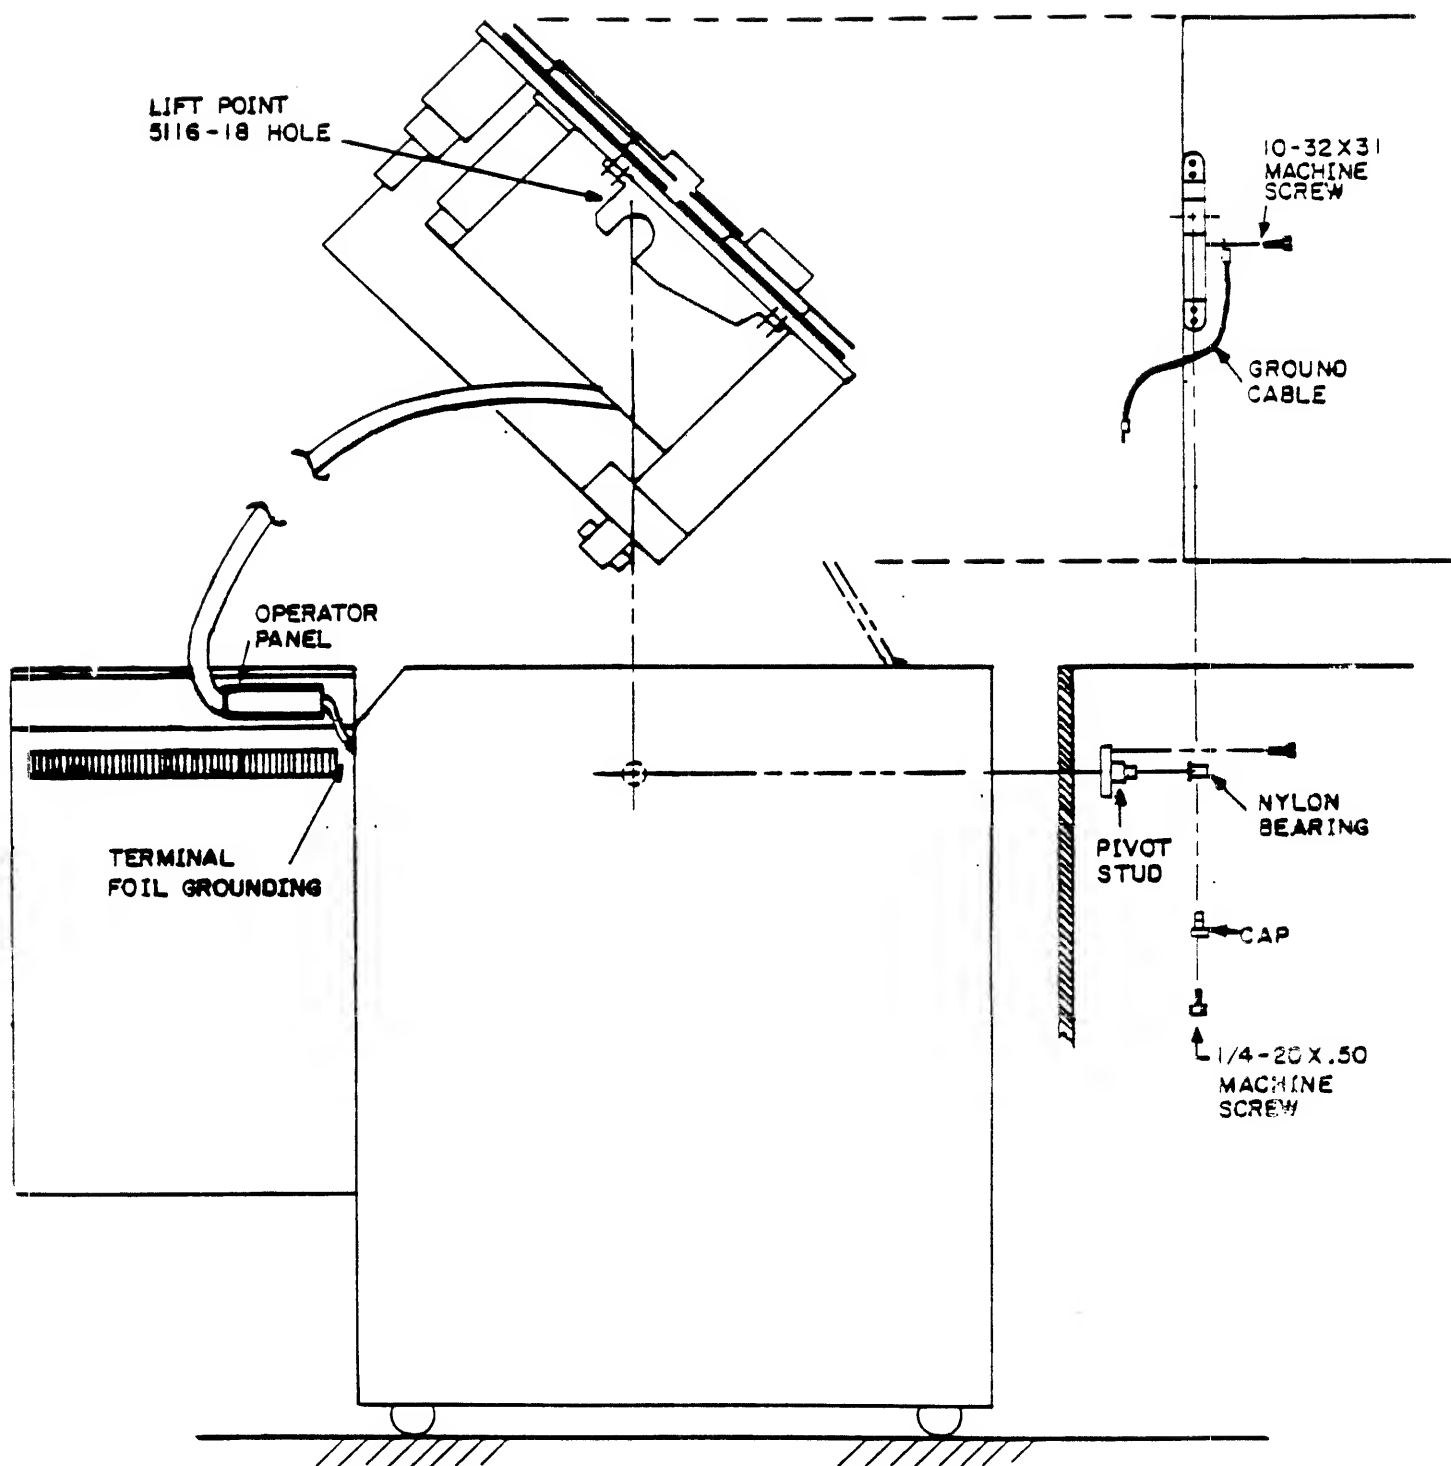
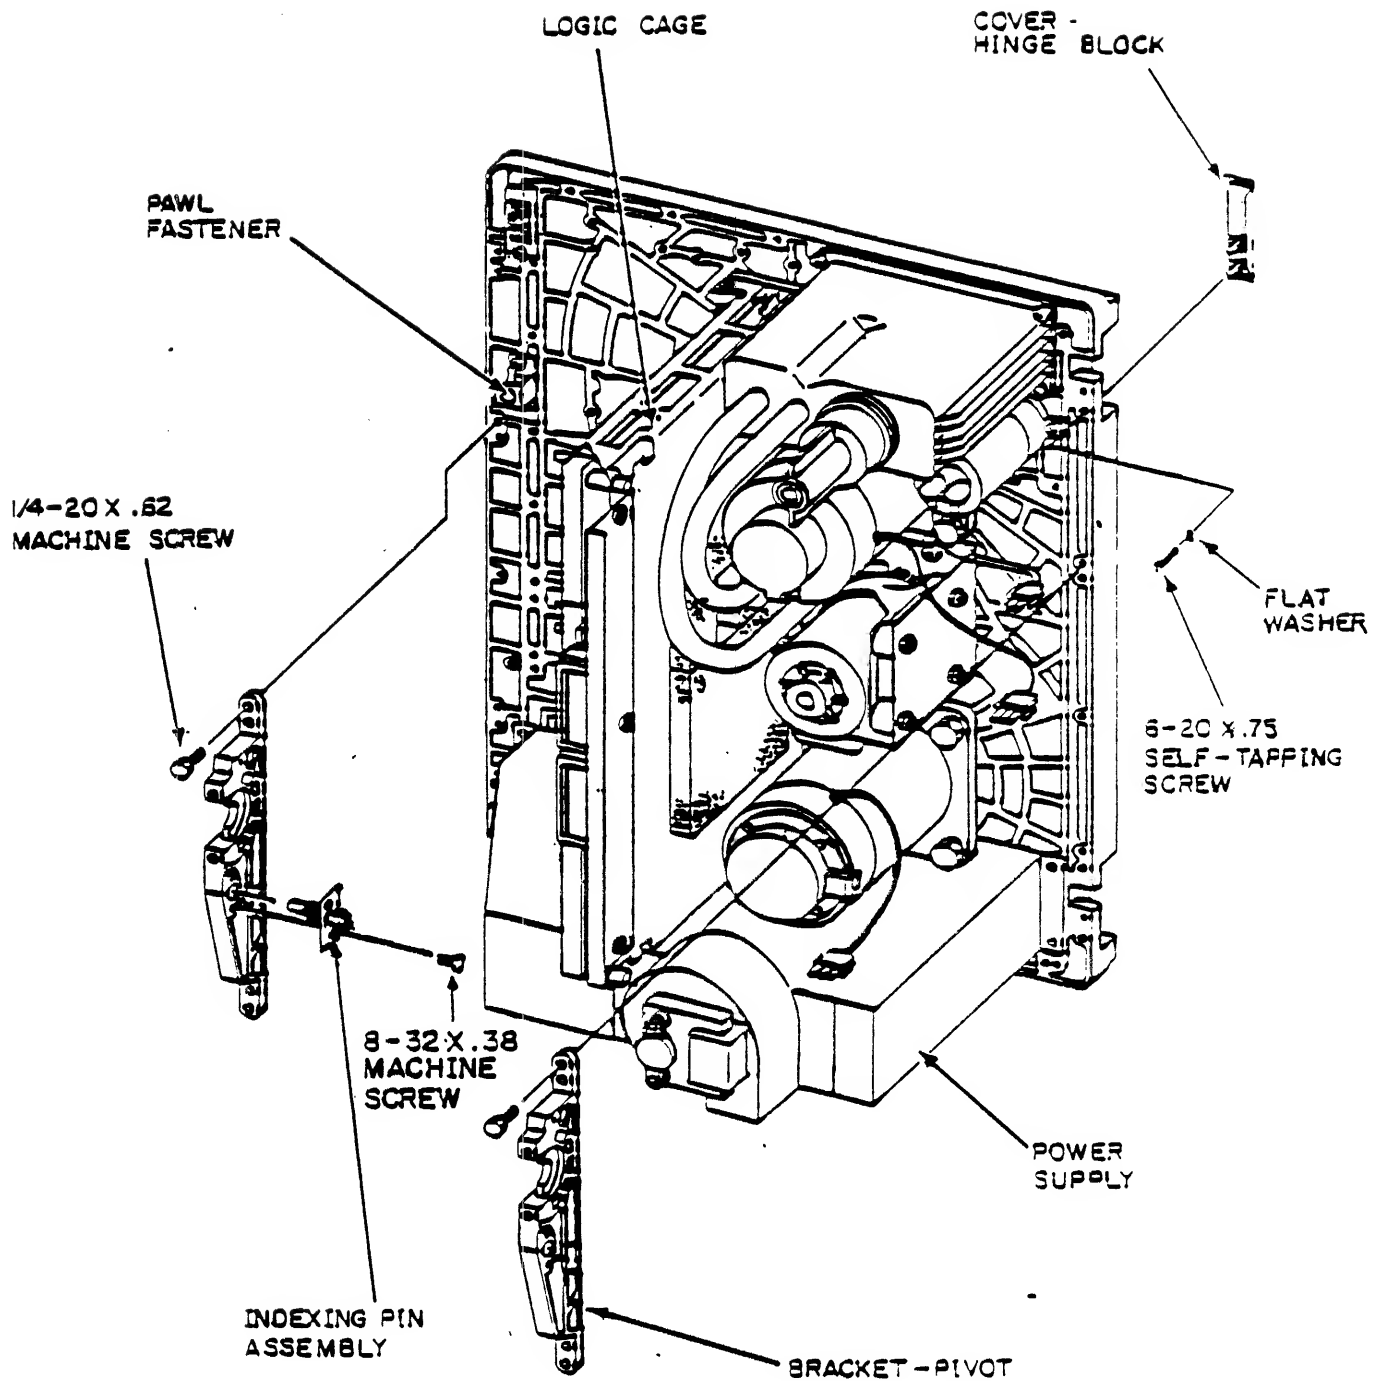

Figure 3-15. INSTALLATION HARDWARE - CABINET
Figure 3-16. INSTALLATION HARDWARE - STU
The following procedures, steps 1 thru 15, may be referenced to Figures 3-15 and 3-16. Figure 3-15 illustrates the installation hardware mounting locations on the cabinet while Figure 3-16 illustrates the installation hardware mounting locations on the STU.
4. Turn STU over so that unit is in a vertical position, resting on the power supply assembly (Figure 3-16).